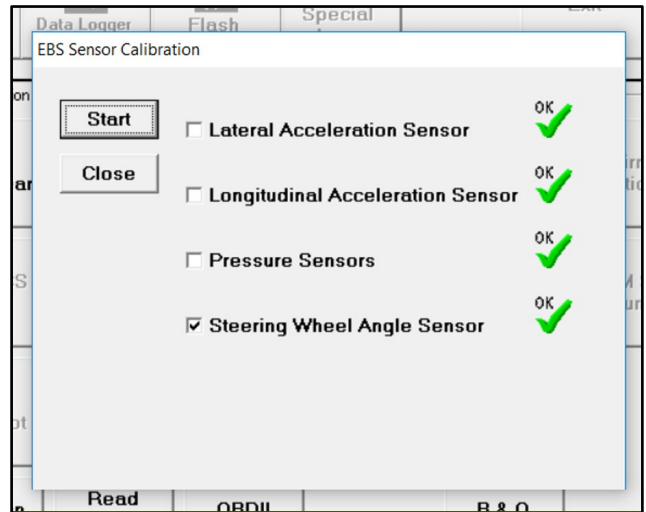

Figure 18
28. Click “Start” to start the calibration procedure (refer to Figure 18). The sensor calibration is now complete.